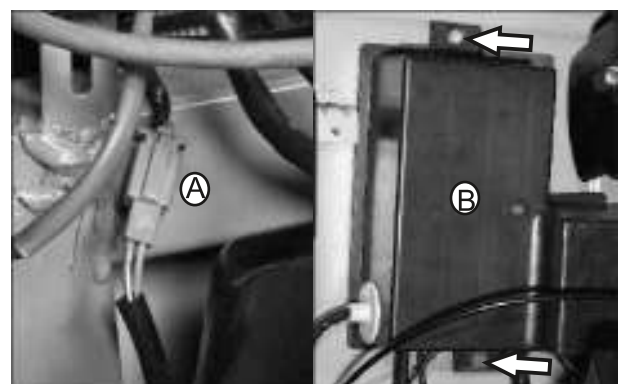

Fig. 3.7
- Disconnect the neutral switch coupler from wiring harness(A).(Fig. 3.7)
- Loosen and remove 2 nos. hexagonal screw (M6X16)along with plain washer from Cover TCI (B). (fig. 3.7)